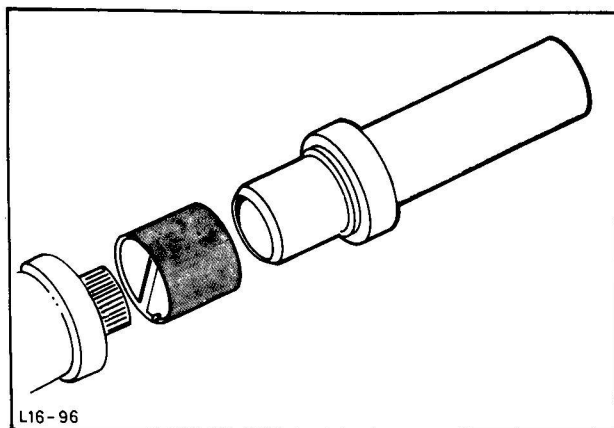

Fig. 97. Fit extension housing bush with Special Tool No. 16-016
46. Press in new extension housing bush with Special Tool No. 16-016, Fig. 97.